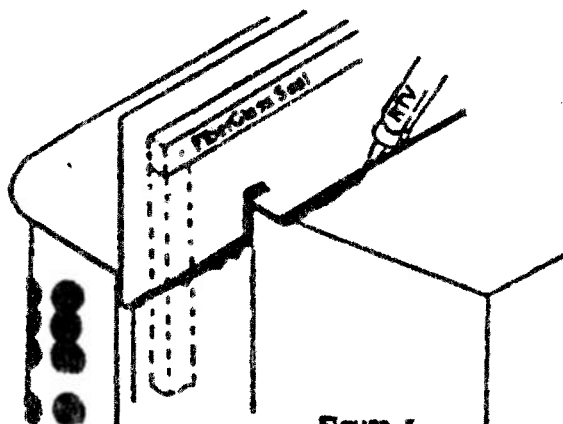

Figure 5
3. Caulk with an RTV high temperature silicone cement along the back edge of the trim panel as shown in Figure 5. Make sure all cracks or openings along the back edge where the trim panel and the stove join, are cemented.
4. Place the fiberglass strip (1" wide x 1/2" thick, backed with adhesive) on the back of the trim panel, across the top and down both sides, as illustrated in Figure 5 as a dotted line section.